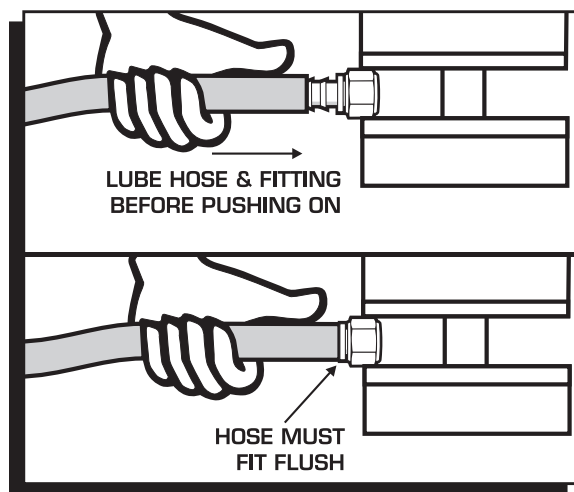

Figure 6 Installing Fuel Hose to the Push-Lock Fittings.
6. MSD supplies two -6 AN style fittings for use on the throttle body fuel inlet. Both use 'push-lock' style inlets to connect to the fuel hose and do not require clamps. Determine whether the 90° or straight fitting is best for your application and install the hose by pushing it all the way flush on the fitting. A dish soap solution will help with the installation (Figure 6). Note: Do not use clamps on these fittings as it could damage the hose.